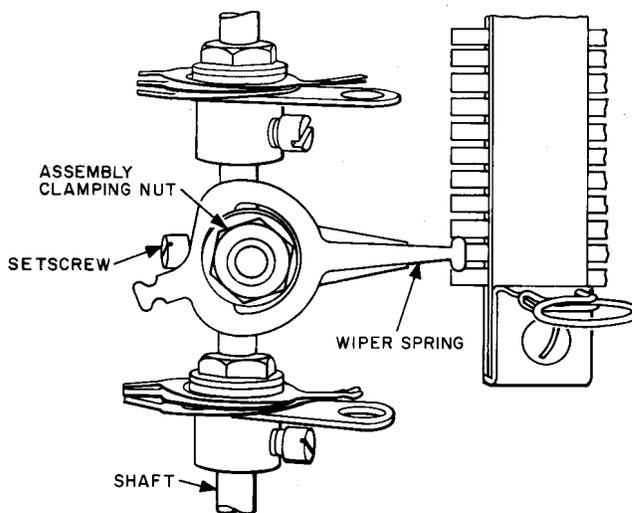

Fig. 14—Commutator Wiper Alignment
3.13 Horizontal Alignment of Wiper: (Reqt 2.13)—Where commutator wiper springs are assembled to the hub with an assembly clamping nut, as shown in Fig. 14, align the commutator wiper horizontally as follows.